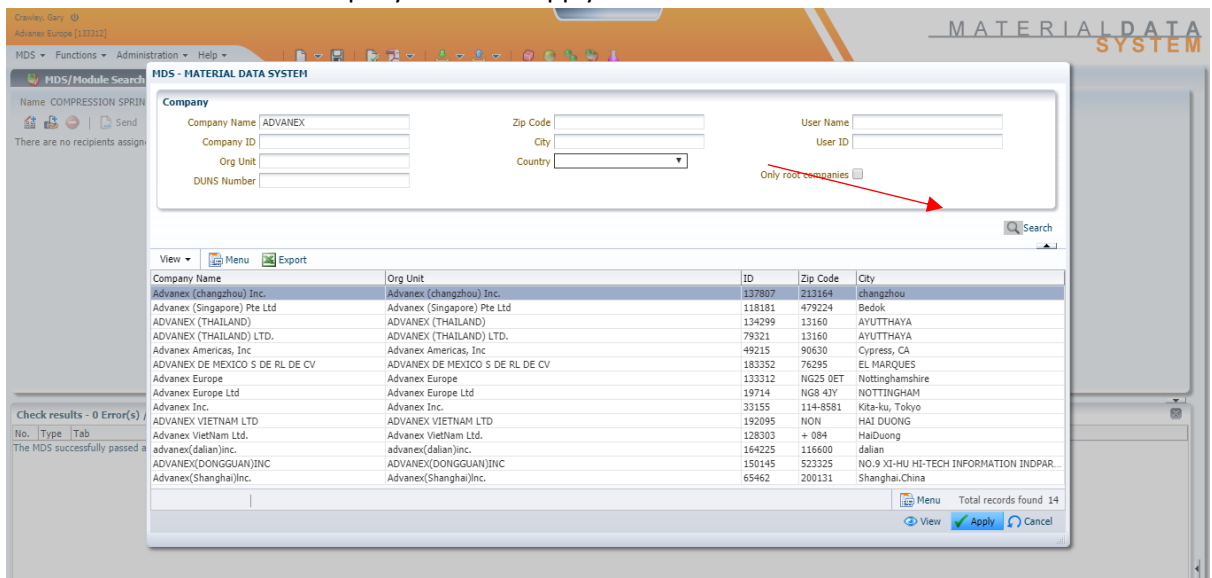

Fig.9
15. Enter the customer's name in the 'Company Name' field and click the 'Search' icon below. (Fig9)